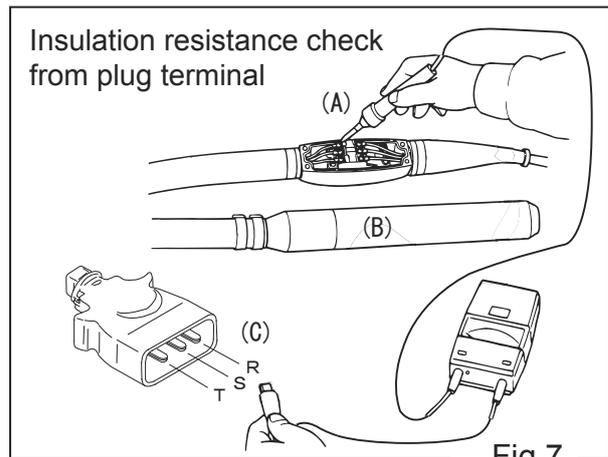

Fig.7
b. Insulation resistance check (Fig.7)
- With the switch turned on, check the insulation resistance between plug terminal and (A) vibration head assembly and (B) switch box.
- With the switch turned off, check the insulation resistance between R-S, S-T, and T-R at the plug terminal (C).